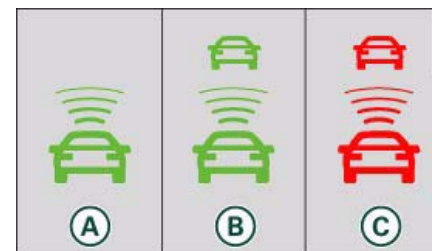

Fig. 144 Instrument cluster: Indicator lamp ▶
- **A No vehicle in front:** The green indicator lamp **A** ⇒ page 134, fig. 144 shows that the adaptive cruise control system is in cruise mode and that there is no vehicle in front. It maintains the stored target speed.